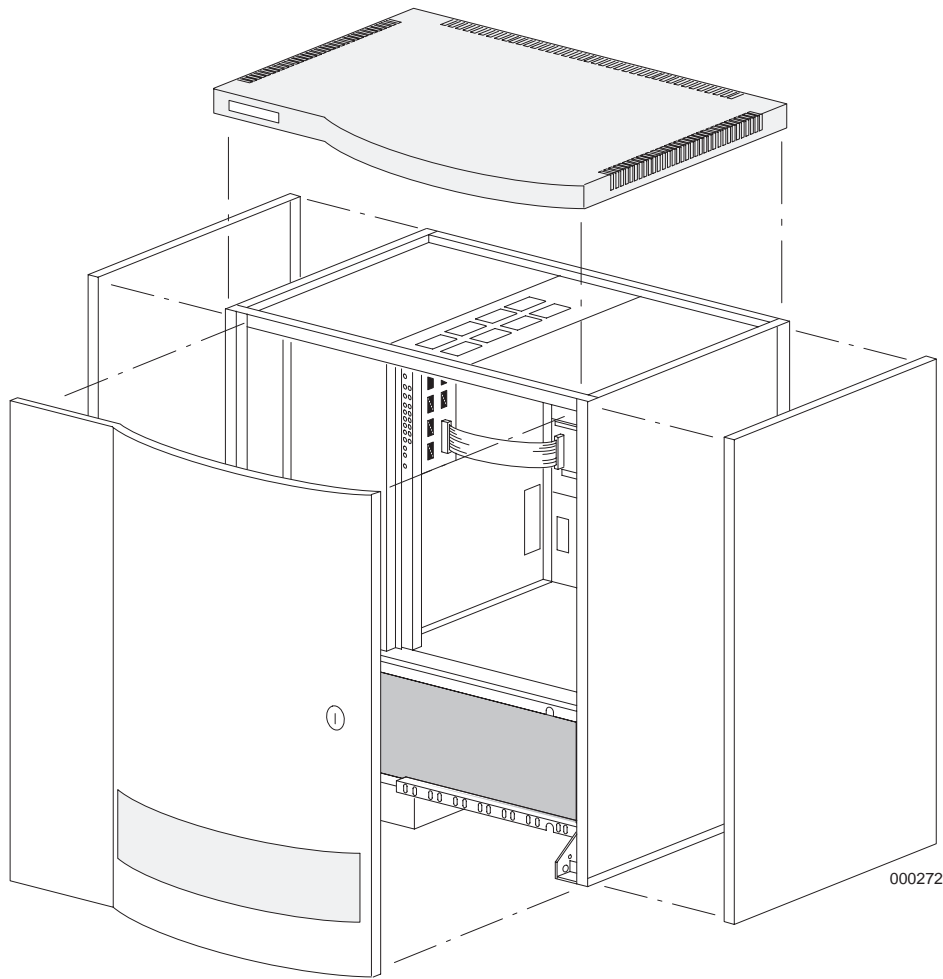

Figure 11-19. Cover Replacement.
5. Lift the top cover off the frame, as shown in Figure 11-19.